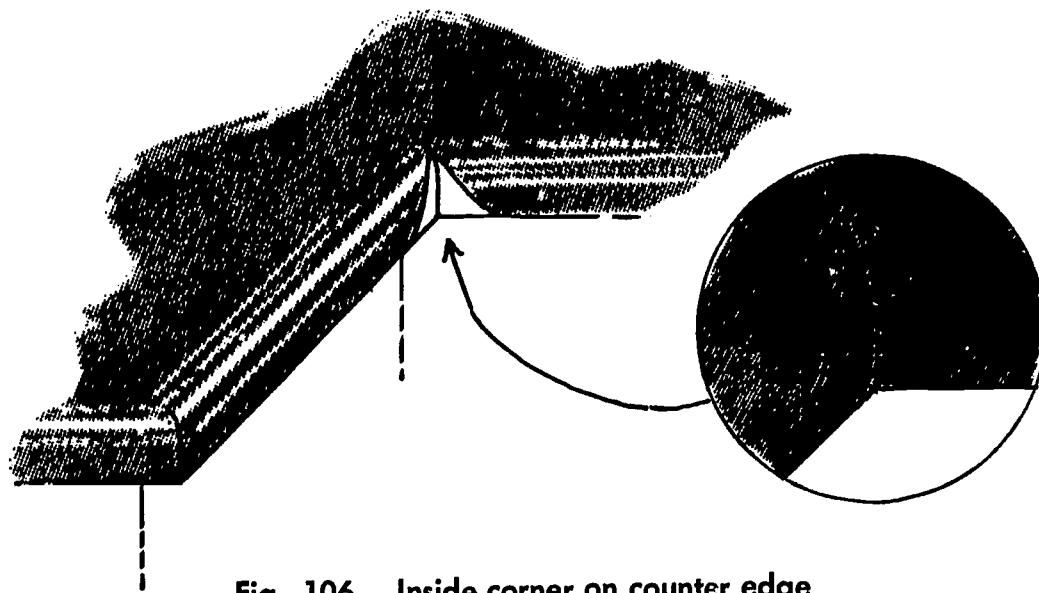

Fig. 106. Inside corner on counter edge
- The edge of the inside corner of an L-shaped or U-shaped counter presents a cutting problem. Cut the material at a 45° angle from the inside corner and add two pieces of material to fill out the corner as shown in Fig. 106.